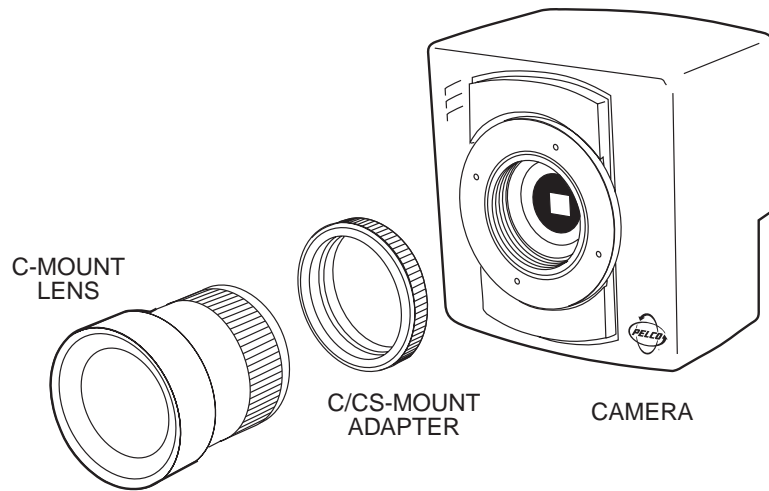

Figure 4. C-mount Lens with C/CS-Mount Adapter
C-mount lenses are also compatible by using a Pelco PCMA40 C/CS-mount adapter. Refer to Figure 4.
2. If using a C-mount lens, mount a C/CS-mount adapter between lens and camera. Refer to Figure 4.